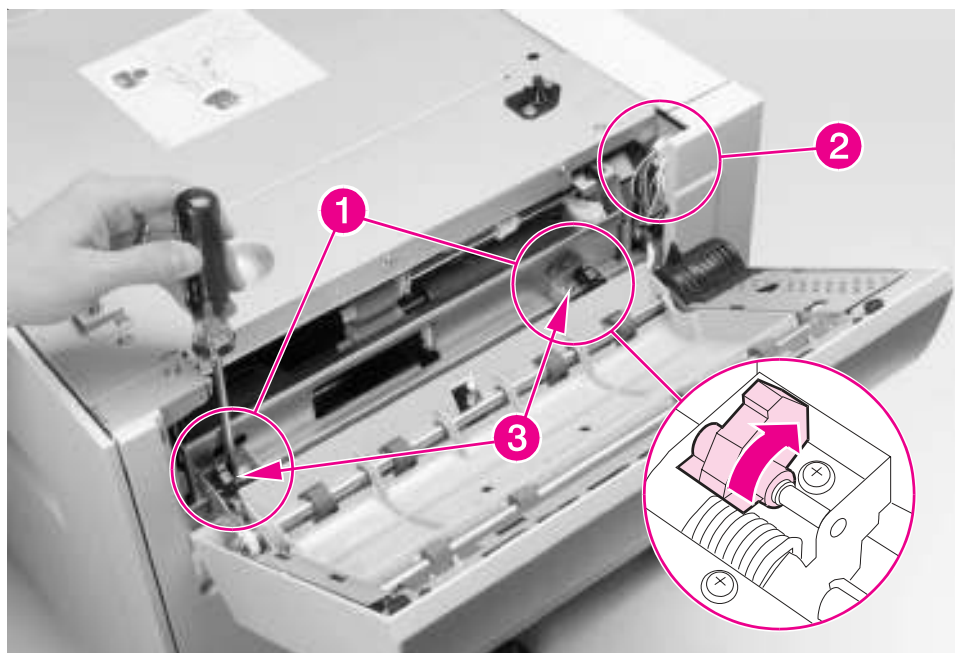

Figure 6-76 2000-sheet Input Tray Vertical Transfer Unit (VTU)
- 1 Remove the Vertical Transfer Unit (VTU) from the 2000-sheet Input Tray (see figure 6-76).
- 2 Rotate the 2 plastic cams on the VTU hinges toward the 2000-sheet Input Tray to the secure position (Figure 6-76, callout 1).
- 3 Locate the 2 cables that run from the VTU to the chassis at the right side's upper-back corner (Figure 6-76, callout 2) and disconnect the 2 cables from the chassis.
- 4 Remove the 2 screws that secure the VTU to the chassis: 1 screw near each end of the VTU (Figure 6-76, callout 3).